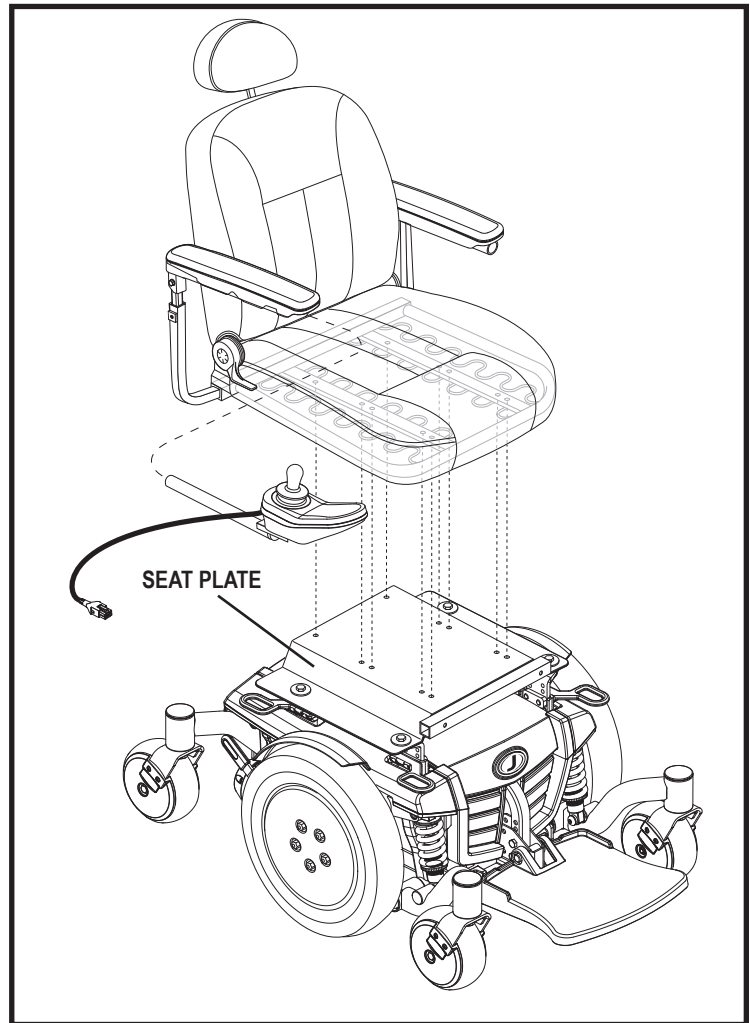

Figure 10. Seat Installation-UK Occupied Transit Securement System
For United Kingdom occupied transit power chairs, the seat is secured to the power base with hardware that attaches the seat plate to the four seat interface mounting brackets. The seat plate is located on the bottom of the seat. See figure 10.
1. Attach the seat plate to the power base and ensure all hardware is properly installed and securely tightened. See figure 10.